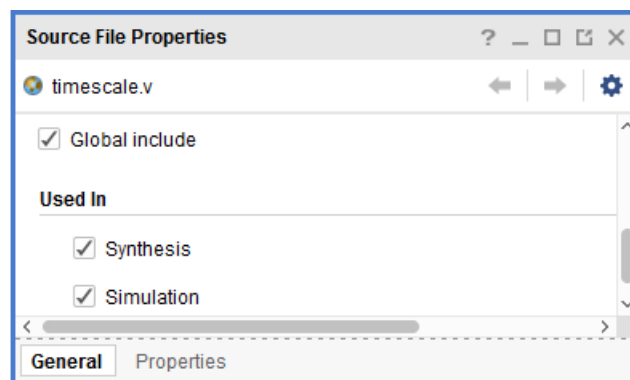

Figure 1-8: Source File Properties Window with Global Include
2. Check the **Global include** check box in the Source File Properties window, as shown in Figure 1-8.